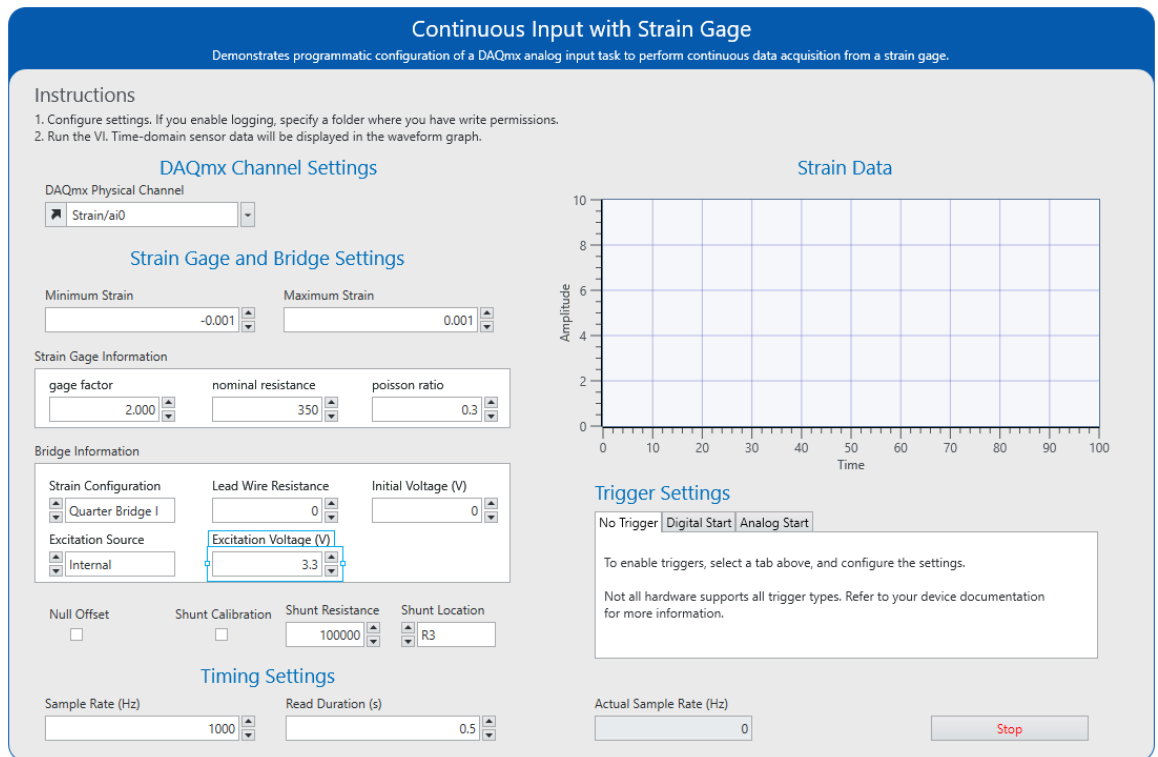

Figure 5-25 The DAQmx examples are built to give you a solid starting point for your programs. Use them as a starting point.
47. Change the *DAQmx Physical Channel* to **Strain/ai0** (or the channel your strain gage is connected to), the *Strain Configuration* to **Quarter Bridge I** and the *Voltage Excitation Value* to **3.3**. See Figure 5-25 for reference.